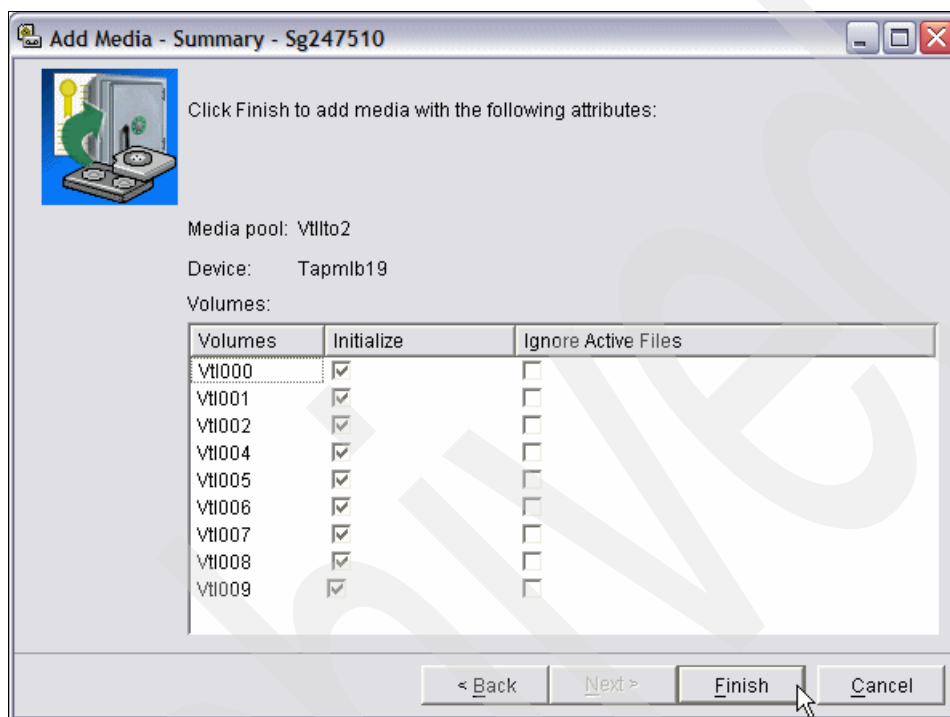

Figure 6-23 Add Media - Summary
17. After you click Next, you get a summary window, such as the one shown in Figure 6-23. Review the summary information and make changes if you want. You can use the Back button if you want to make changes using previous wizard windows.